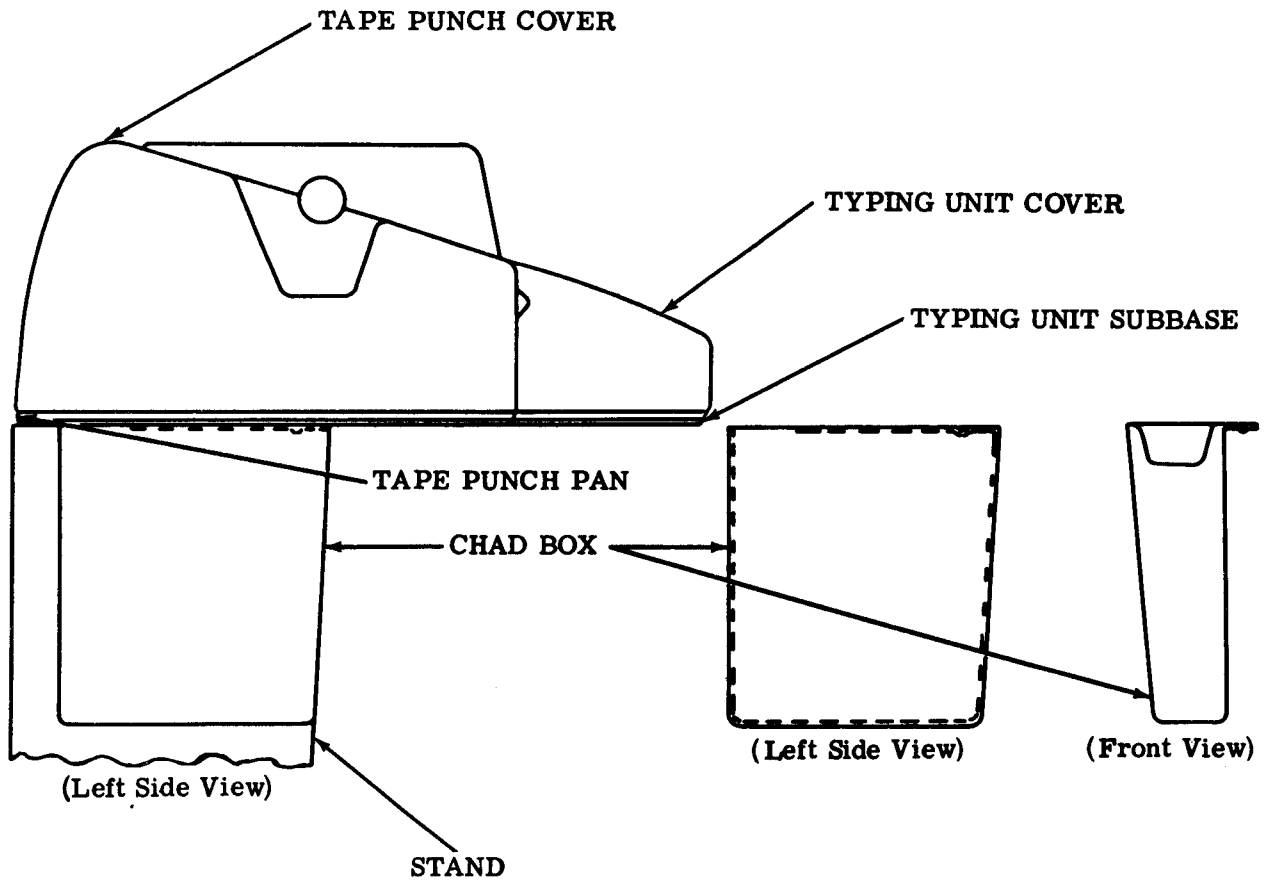

Figure 19 - Tape Punch Chad Chute Assembly
6.03 Figure 19 illustrates the chad box installation.